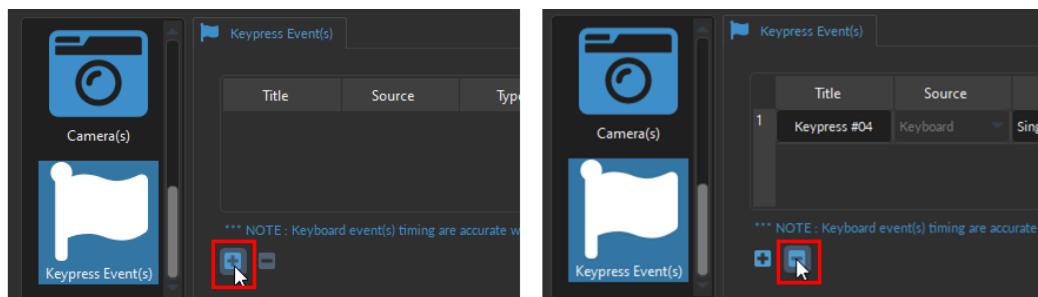

Figure 14.28: Adding and Removing Keypress Events
To add a new **Keypress Event**, select the + sign at the bottom of the window (Fig. 14.28, left). To remove a Keypress, use - button (Fig. 14.28, right).
- **NOTE:** Selecting the + button (without clicking the *Add* button or the *Close* button of the *Channel Configuration* window) will **automatically** add the Keypress Event channel at the **bottom** of the Acquisition View window, below any pre-existing channels (Fig. 14.28).